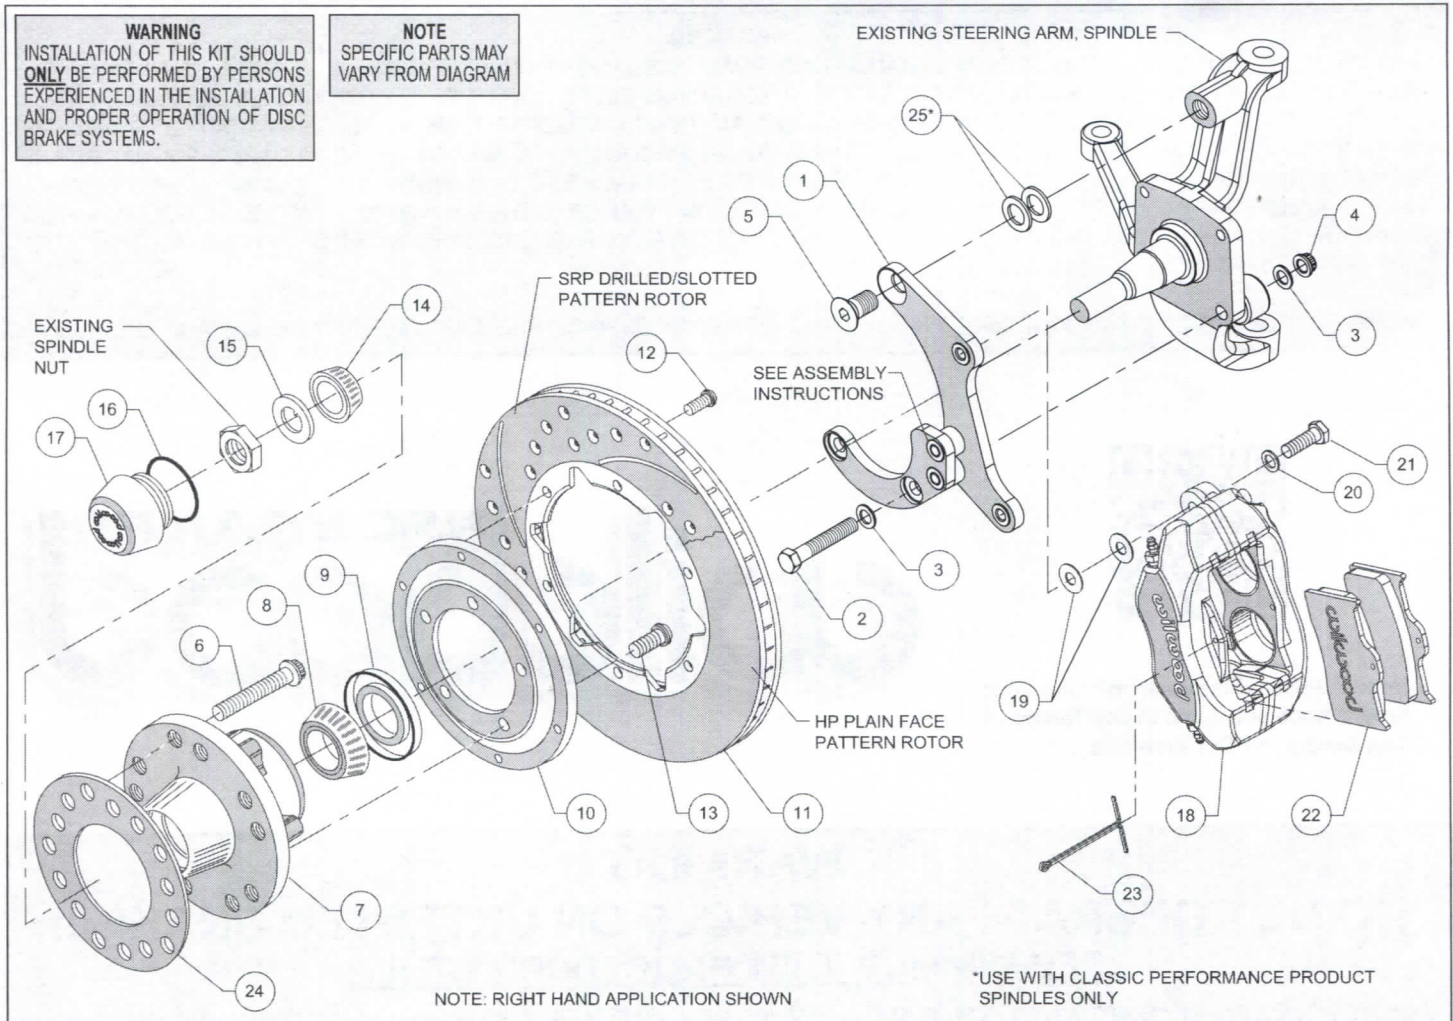
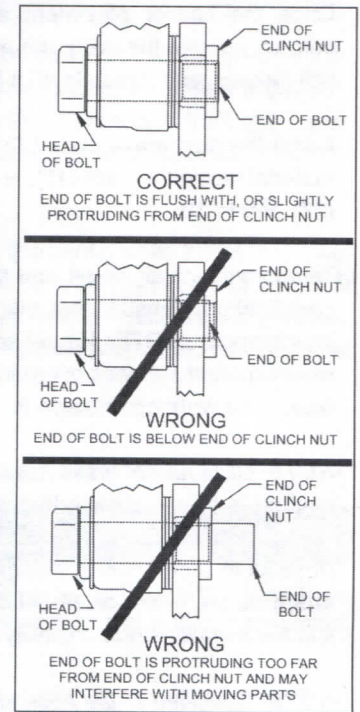

Figure 1. Typical Installation Configuration
Figure 4. Clinch Nut Engagement Diagram
Assembly Instructions (numbers in parenthesis refer to the parts list and Figure 1 on the preceding pages): **CAUTION:** All mounting bolts must fully engage clinch nuts. Be sure to check that all bolts are either flush or protruding through flanged side of clinch nut after shimming, Figure 4.
- The caliper mounting bracket (1) has been assembled at the factory for alignment purposes. Loosen the two bolts that secure the brackets together so that the bolts are hand tight only, this will enable the bracket assembly to be adjusted to accommodate various spindle tolerances during assembly. Orient the bracket as shown in Photo 1 and Figure 1, and install to lower mount holes using bolts (2), washers (3), and lock nuts (4), Figure 1 and Photo 1. Do not tighten yet.
- For Classic Performance Products spindles only:** Initially use two .024" thick shims (25) on upper mount bolt between bracket and spindle, Figure 1. While test fitting bracket assembly per the instructions below, check that the bracket is parallel to the rotor. If not, add or subtract shims (25) between the bracket and spindle.
- Install bolt (5) in the upper bracket hole. Temporarily tighten all of the bracket mounting bolts. Ensure that the flanged heads of the clinch nuts in the bracket are facing outboard, Photo 1. **NOTE:** The bracket must fit squarely against the mounting points on the spindle. Inspect for interference from casting irregularities, machining ridges, burrs, etc. Torque lower lock nuts to 47 ft-lb. Remove the upper bolt, apply red *Loctite*® 271 to threads, and torque to 140 ft-lb. Remove one at a time the bolts that secure the bracket assembly to each other, apply red *Loctite*® 271 to the threads and torque to 40 ft-lb.
•Pack the large inner bearing cone (8) with high temperature disc brake bearing grease (available from your local auto parts store) and install into the backside of the hub (7), Photo 3.
•Install the grease seal (9) by pressing into the backside of the hub (7), flush with the end of the hub, Photo 3.
•Orient the rotor (11) and the rotor adapter (10) as shown in Figure 1 and Photo 4. Attach the rotor to the adapter using bolts (12). Using an alternating sequence, apply red *Loctite*® 271 to the threads, and torque to 25 ft-lb.
•Mount the adapter/rotor assembly (10/11) to the hub (7) using bolts (13), as shown in Figure 1 and Photo 5. Using an alternating sequence, apply red *Loctite*® 271 to the threads, and torque to 45 ft-lb.
•Pack the small outer bearing cone (14) with high temperature disc brake bearing grease and install into hub (7). Slide the hub/rotor assembly onto the spindle. Secure using spindle washer (15) and OEM spindle nut, Photo 6. Bearing adjustment: Tighten the nut while turning the hub. When there is a slight bind on the bearings, they are seated correctly. Back the nut off about 1/6 to 1/4 of a turn, or sufficiently to allow .001" to .007" end play.
•**NOTE:** Please reference the caution statement at the beginning of the assembly instructions. Mount the caliper (18) onto the caliper mounting bracket (1) using bolts (21) and washers (20), as shown in Figure 1. Initially place two .035" thick shims (19) on each bolt between the caliper and the bracket, Photo 8. Temporarily tighten the mounting bolts and view the rotor (11) through the top opening of the caliper. The rotor should be centered in the caliper, Photo 9. If not, adjust by adding or subtracting shims between the bracket and the caliper. Always use the same amount of shims on each of the two mounting bolts. **NOTE:** The end of each bolt must be flush with or slightly protruding from the head of the clinch nut, as shown in Figure 4. If necessary place spare shims between washer (20) and caliper mounting ear to achieve the proper clinch nut engagement.